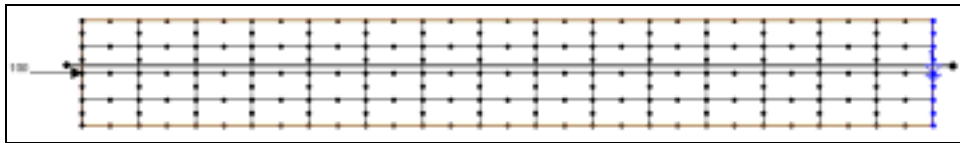

Figure 18-2 Mesh with Observation Arc.
6. Create an arc down the center of the flume as shown in Figure 18-2